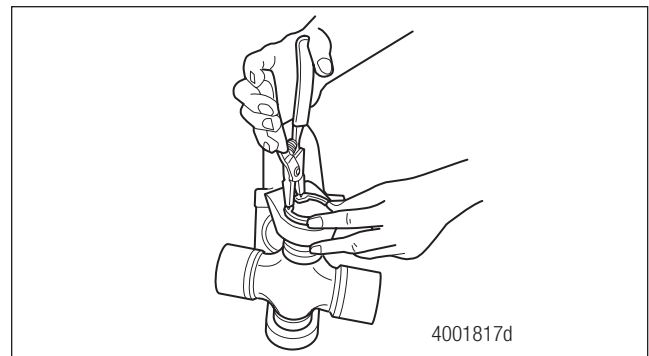

Figure 5.60
- Use snap ring pliers to install the second snap ring into the snap ring groove. Figure 5.60.